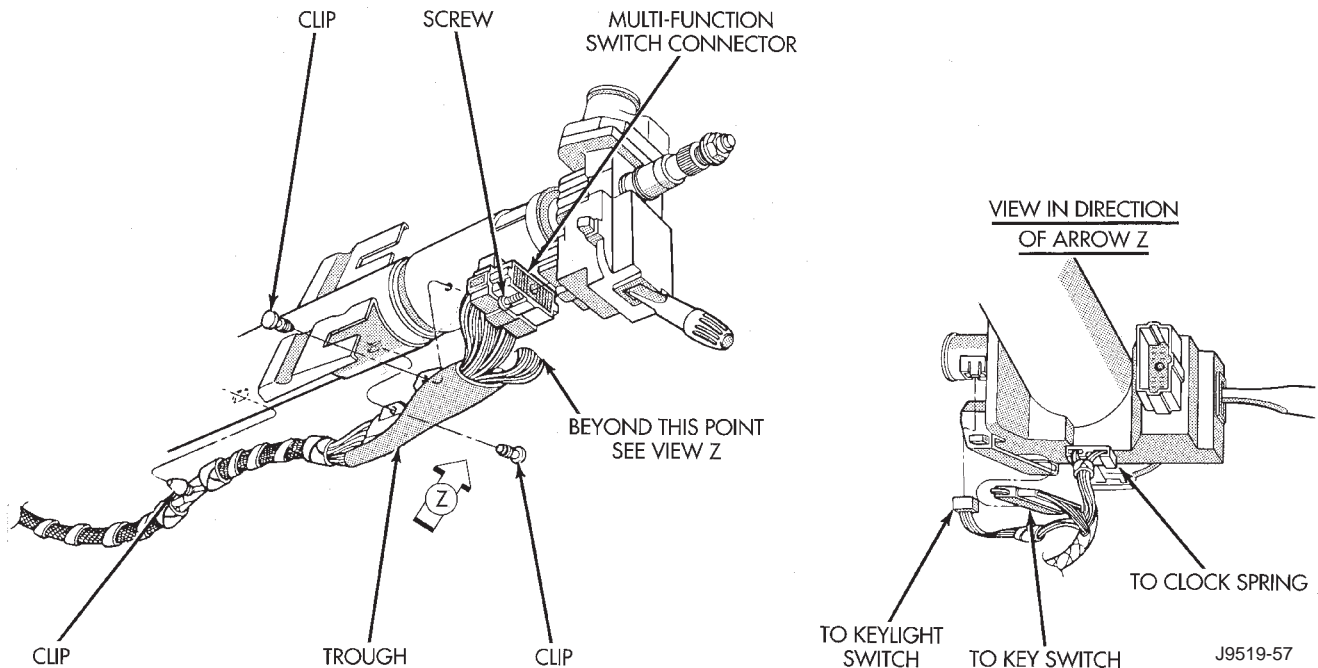
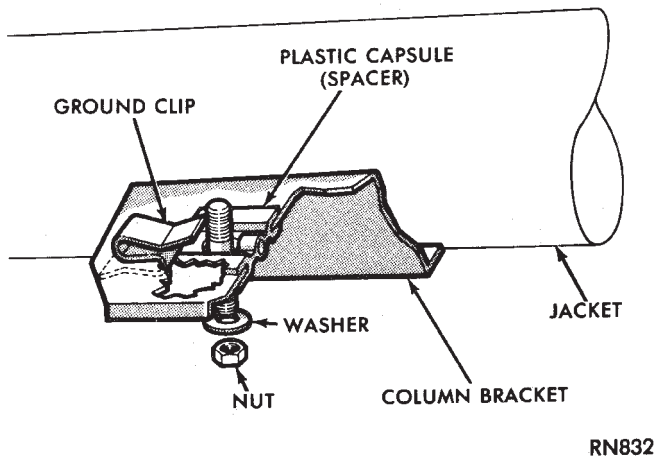

Fig. 16 Steering Column Wiring Harness
Fig. 17 Ground Clip & Spacer Installation
(13) Remove the wiring harness from steering column (Fig. 16).
- (2) Ensure the ground clip is on the left spacer slot (Fig. 17).
- (3) Install the Interlock cable from the steering column. Refer to Automatic Transmission Shifter/Ignition Interlock in this group.
- (4) Install wiring harness connections to steering column (Fig. 16). **Ensure the wiring is not pinched and all connections are correctly locked in place.**